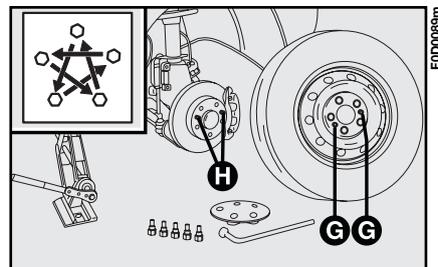

fig. 7
7) Fit the spare wheel making sure that the pegs **H** fit into holes **G**-fig. 7. When fitting the spare wheel, make sure the hub is clean so that the fixing bolts will not loosen.
10) Fasten bolts completely, working in a criss-cross fashion as shown in fig. 7.